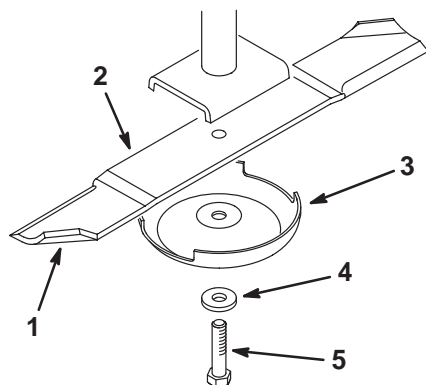
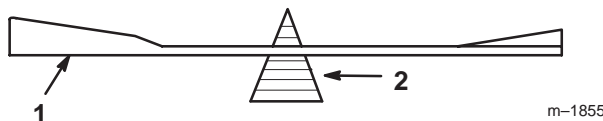

Figure 14
Figure 16
Hold the blade end using a rag or thickly-padded glove. Remove the blade bolt, lock washer, anti-scalp cup and blade from the spindle shaft (Fig. 14).
2. Check the balance of the blade by putting it on a blade balancer (Fig. 16). If the blade stays in a horizontal position, the blade is balanced and can be used. If the blade is not balanced, file some metal off the end of the sail area only (Fig. 14). Repeat this procedure until the blade is balanced.
1. Install the blade onto the spindle shaft (Fig. 14).
2. Install the anti-scalp cup, lock washer and blade bolt (Fig. 14). Torque the blade bolt to 85–110 ft-lb (115–149 N•m).